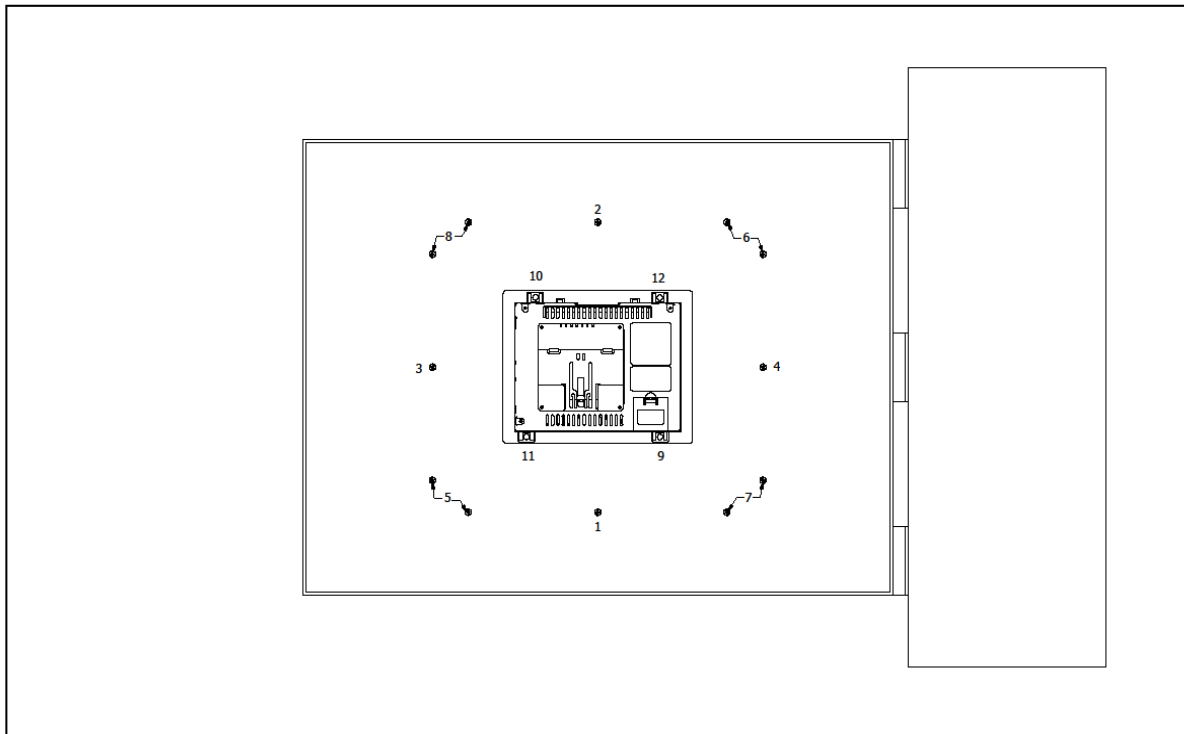

Figure 3.2—Perimeter Set Studs
2. If the system does not experience shock or vibration and will not be exposed to weather or wash down conditions, the unit can be installed by cutting the rectangular opening and installing the four (4) supplied clips.
8. The two (2) spring clips will latch the unit in the panel.
9. Insert each of the four (4) mounting clips into the slots in the XL+ OCS case. One clip should be installed on each corner. Lightly tighten each screw so the clip is held in place.
11. If the perimeter studs are needed, it is recommended to use a thread locker (similar to 242 Blue Loctite). Use supplied lock washers and nut. Recommended torque is 3-4 in-lbs (0.34-0.45 Nm). Refer to Figure 3.2 for the proper torque sequence.